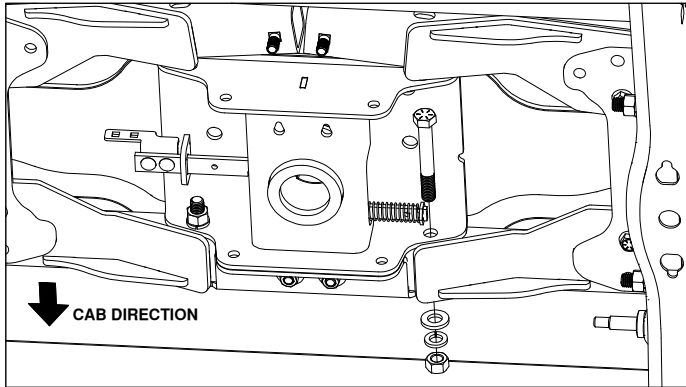

Figure D3: View looking up under the truck bed.
3. **Place second center section cap screw.** Place a 5/8" x 4-1/2" cap screw into the hole on the passenger side of the center section from the inside of the center section toward the front of the truck, as shown in Figure D3. Loosely secure the cap screw with a 5/8" flat washer, lock washer, and nut.